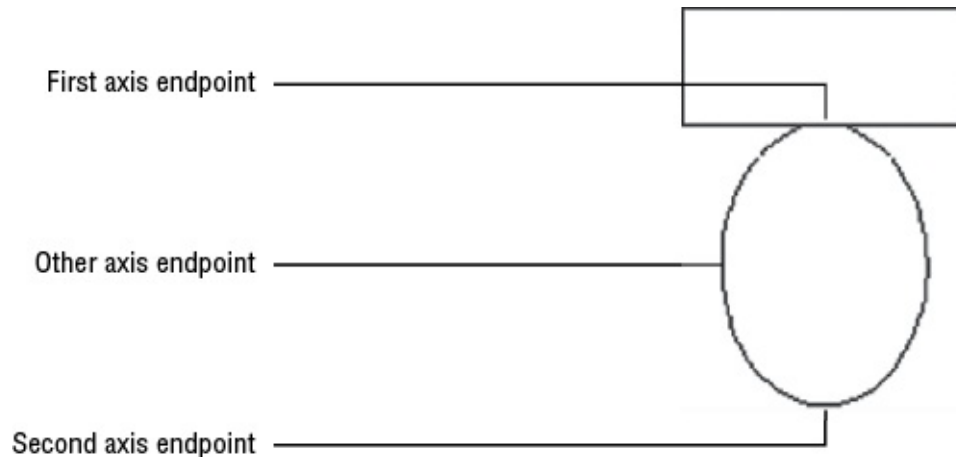

FIGURE 3.4 The ellipse added to the tank
3. At the Specify distance to other axis or [Rotation]: prompt, point the cursor horizontally from the center of the ellipse and enter **8"** ↵. Metric users should enter **20** ↵. Your drawing should look like Figure 3.4.